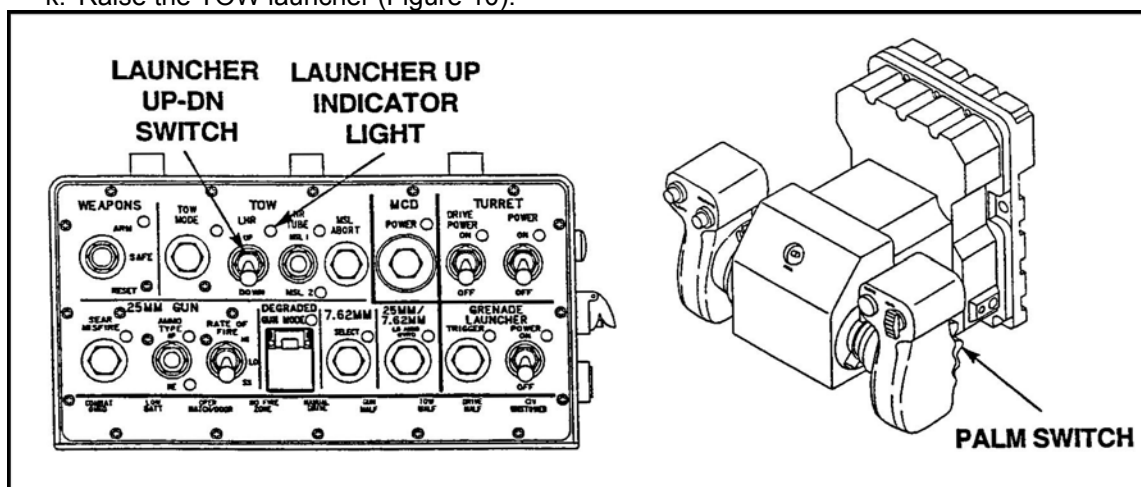

Figure 10. Launcher UP/DOWN switch.
- (4) Adjust sight picture, as necessary, using the LEVEL, GAIN, FOCUS, BRIGHTNESS, CONTRAST switches on the CSCP.
- k. Raise the TOW launcher (Figure 10).